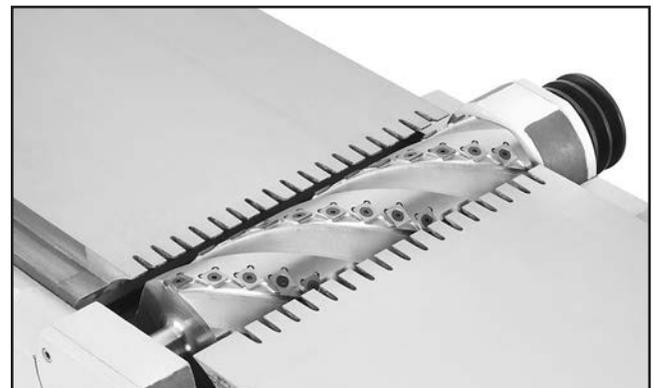

Figure 18. T27696 helical cutterhead secured with hex bolts and lock washers.
- Secure cutterhead assembly bearing blocks to casting with hex bolts and lock washers removed in **Step 17** on **Page 4**, as shown in **Figure 18**.